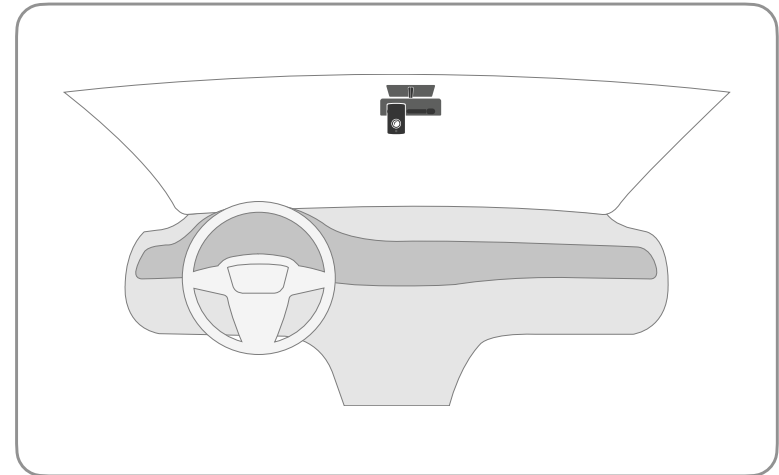

Fig. 1 Center Mount
- Desired installation location is the center of the windshield in the top 2 inches of the wiper path. (see figure 1 for reference).